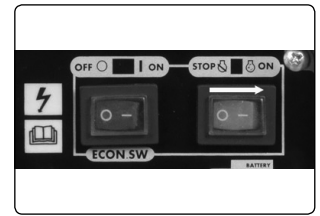

fig.8
6.3.4. Turn the engine switch (Red) to "ON" fig.8.